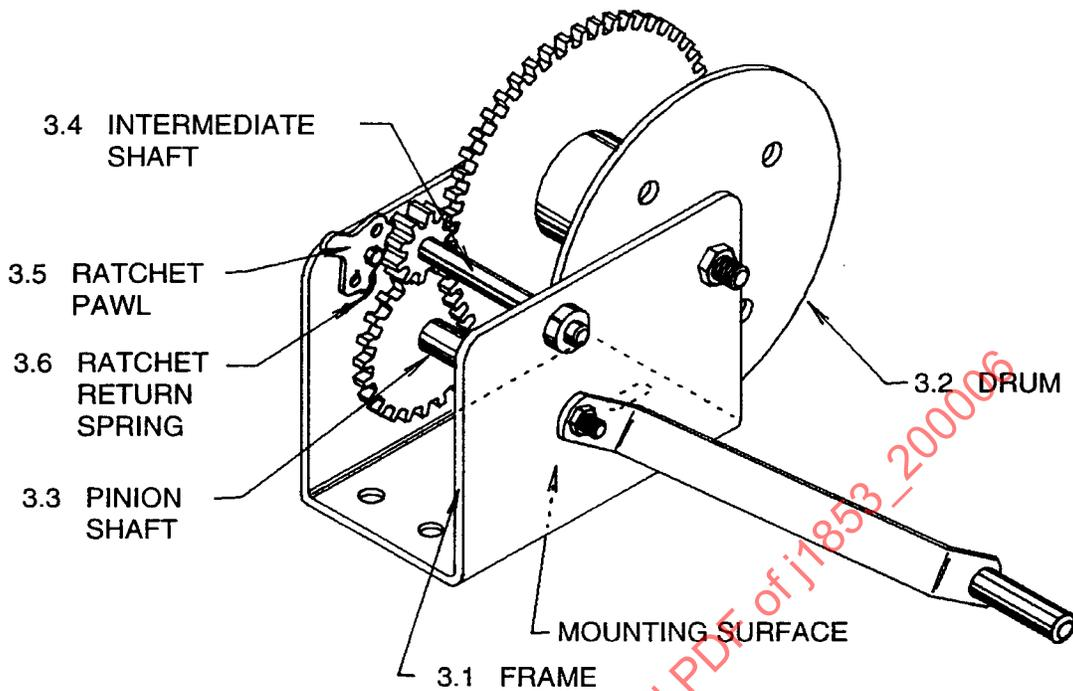

FIGURE 1—COMPONENT PARTS OF THE WINCH
3.1.1 **FRAME**—The basic structure that provides the mounting for the various component parts of the winch. (See Figure 1.)
3.1.2 **DRUM**—That portion of the winch to which the winch line is attached for winding same on to. (See Figure 1.)
3.1.3 **PINION SHAFT**—The input shaft to which the primary input gear and crank handle are attached. (See Figure 1.)
3.1.4 **INTERMEDIATE SHAFT**—Any intermediate shafts incorporated for additional gear reduction or change in direction of rotation. (See Figure 1.)
3.1.5 **RATCHET PAWL**—That spring-loaded device which is designed to index repeatedly into a gear during rotation of the handle/winch when the handle is released. (See Figure 1.)
3.1.6 **RATCHET RETURN SPRING**—The spring that activates the ratchet pawl. (See Figure 1.)
3.1.7 **WINCH LINE**—Rope, wire rope, tape, or equivalent. (See Figure 1.)